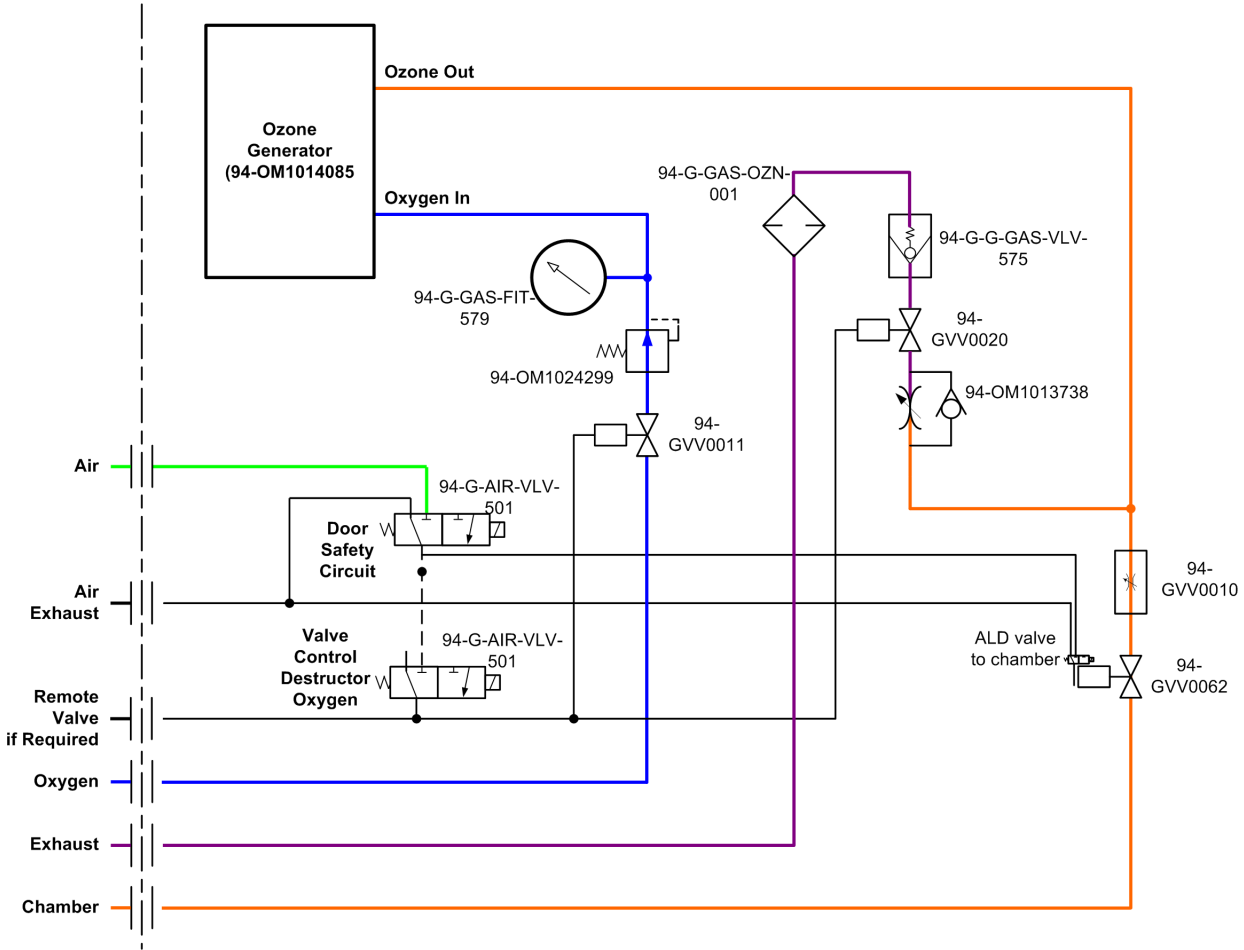

Figure 3 ODS pneumatic control circuit
Figure 3 shows the pneumatic control circuit.
- 2 Switch the fast ALD valve (CH) ON to admit ozone to the process chamber (see Figure 3). For most processes, use a one-second pulse of ozone.